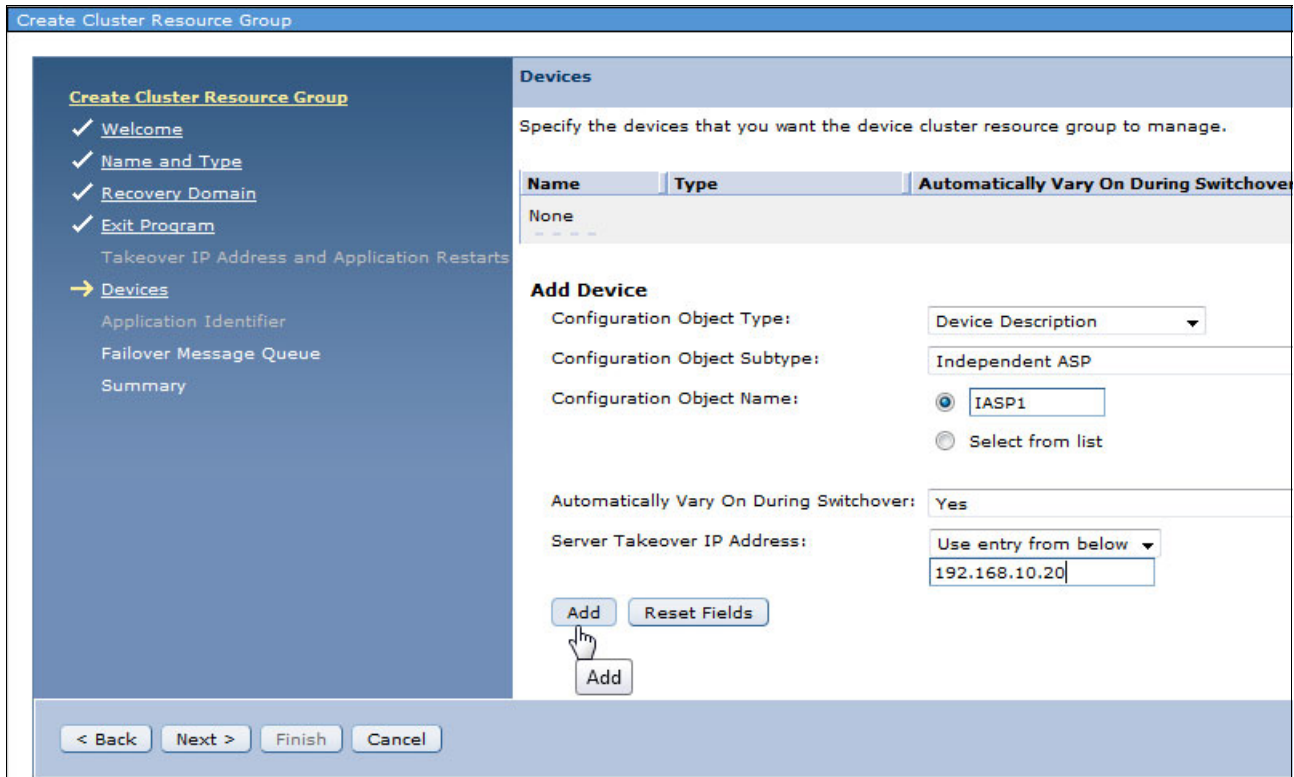

Figure 4-28 Create Cluster Resource Group, defining devices that are controlled by the cluster
25. In the Create Cluster Resource Group Devices panel, define which device is controlled by the cluster resource group. Specify the name of the IASP, as shown in Figure 4-28.